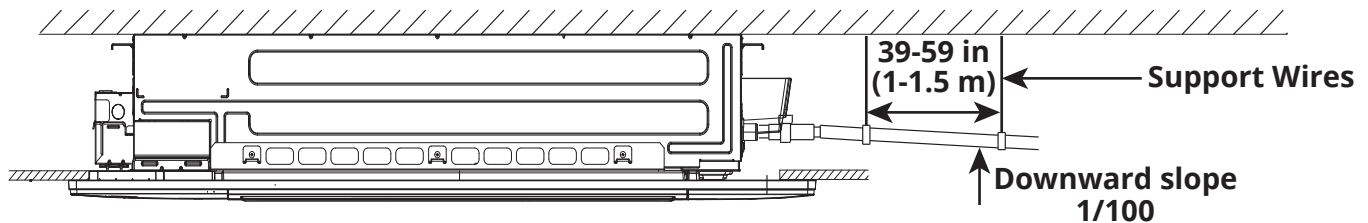

Fig. 5.17
- To prevent the drainpipe from sagging, place support wires every 39-59 inches (1-1.5 meters). Refer to Fig. 5.17 and 5.18 below.